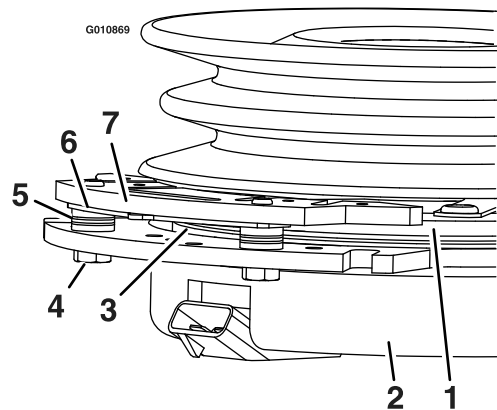

**Figure 70**
3. Remove the dust cap from caster and tighten the locknut (Figure 70).
4. Tighten the locknut until the spring washers are flat, and then back off a 1/4 turn to properly set the preload on the bearings (Figure 70).
**Important:** Make sure that the spring washers are installed correctly as shown in Figure 70.
5. Install the dust cap (Figure 70).